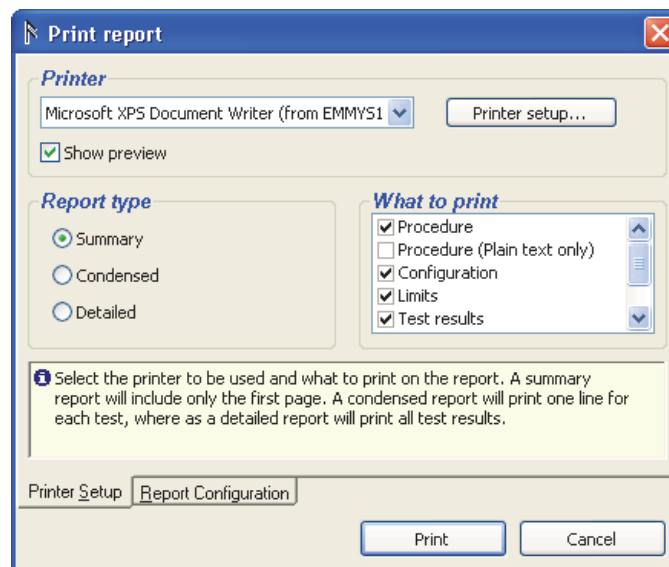

Figure 3-9. Print Report Window
1. Click **File | Print** or click the **Print** icon (🖨) on the main toolbar. The Print Report window shown in Figure 3-9 appears.